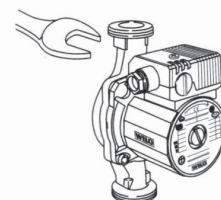

Fig. 3
- When bolting the pump onto the piping, the pump can be secured to prevent rotation by using a combination wrench on the flats provided (Fig. 3).